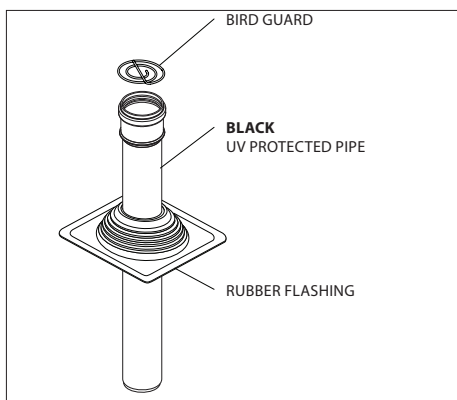

Figure 15- Vertical Pipe Termination
Vertical single pipe (Fig. 15)
2. Attach Flashing to roof. (Fig. 15)